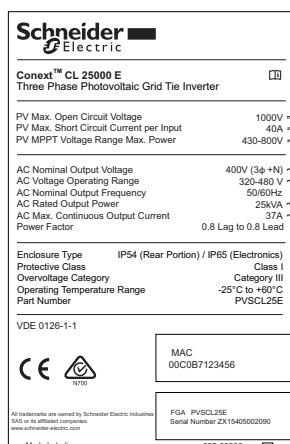

Figure 1-14 Inverter label
- l) Note down the Serial number, MAC and FGA details from the inverter label as shown in Figure 1-14 on page 1–16.